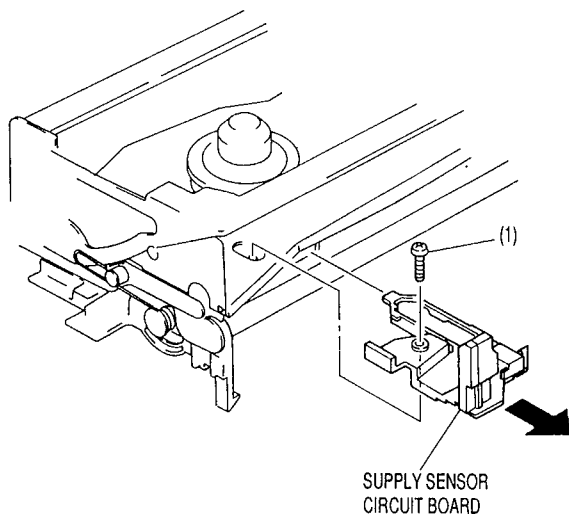

Fig. 3-1
- 1) Remove 1 screw (1) holding the TSS circuit board. (See Fig. 3-1)
- 3) Remove the TSS circuit board in the direction of the arrow. (See Fig. 3-1)